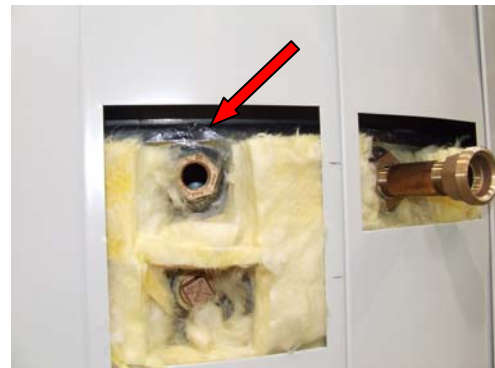

Figure 2
6. Cut the silver tape that connects chamber and tank. Refer to Figure 2.